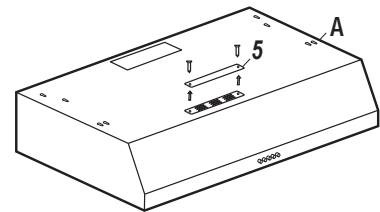

Fig. 15
- If you are venting indoors, unscrew the 2 screws holding cover (5) in place and remove the cover as per Fig. 15. DO NOT REMOVE ANY OTHER VENTING HOLE COVER.